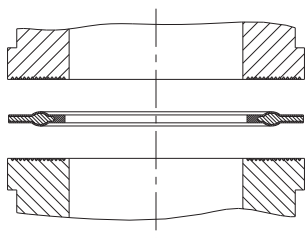

Fig. 3
- The formed bonded seals supplied with the pump seal the joints between the ribbed pump valves and the ribbed ProMinent inserts (Fig. 3).